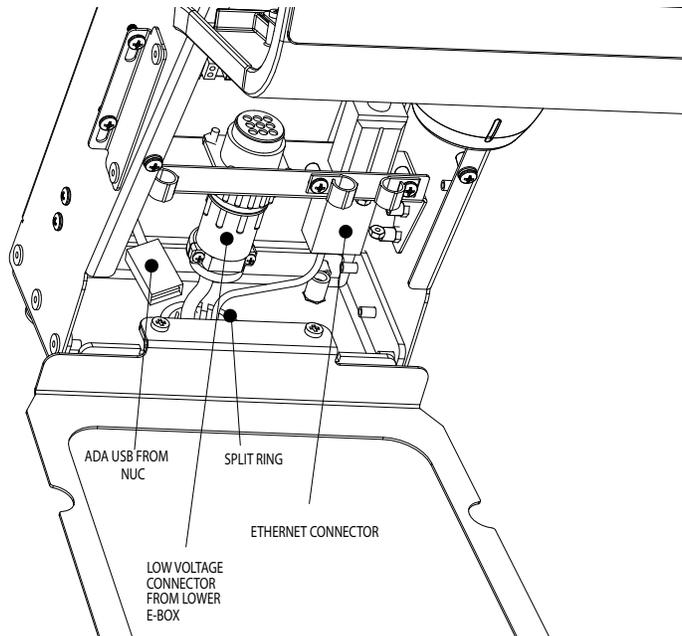

Figure 4
7. Remove the Split Ring collar. See Figure 4.
9. Push the Ethernet cable also through the hole and plug into the mating connector inside the tower E-Box as shown in Figure 4.